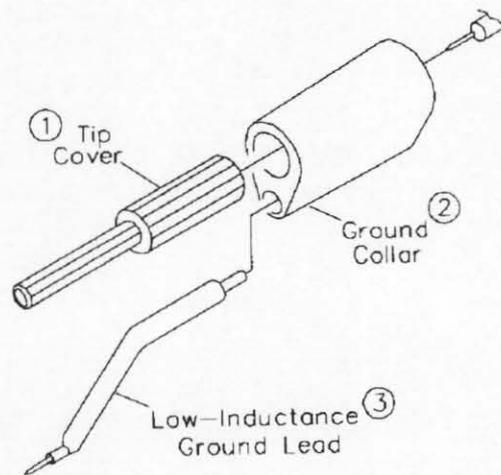

Figure 3: Low-inductance lead
The Low-Inductance Lead (shown in Figure 3) provided with all P6137 probes allows for a substantial reduction of ground-lead inductance (≈ 32 nH instead of 140 nH). Remove the ribbed plastic tip cover (1), install the ground collar (2), so that the socket is pointing toward the probe tip. Reinstall the ribbed cover. Insert the Low-Inductance Lead (3), from the accessory pack, into the ground socket.